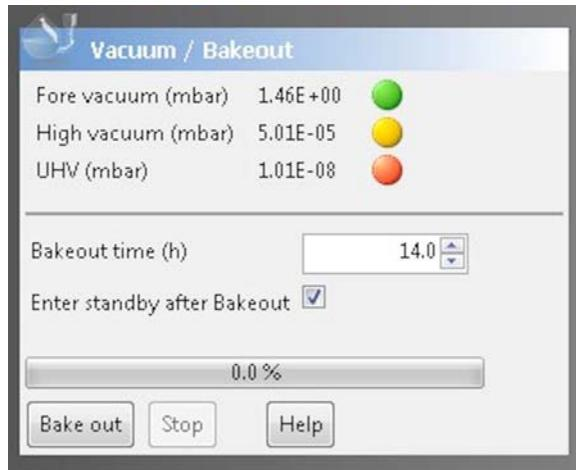

Figure 8-1. Vacuum / Bakeout window
2. In the Tasks panel of the Tune software window, click  **Vacuum / Bakeout** to display the Vacuum / Bakeout window. See Figure 8-1.